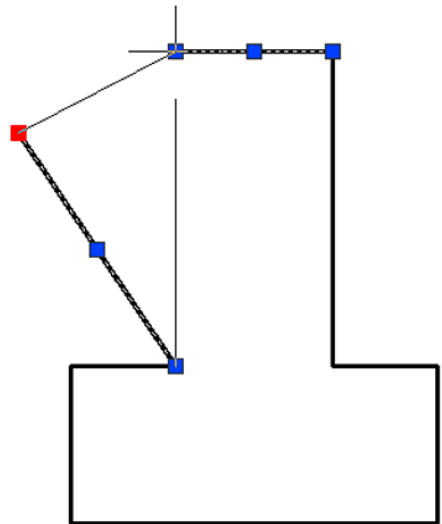

FIGURE 11-10: Using grips to connect two objects.
- » Use object snaps to existing objects to specify the new location. You can drag one grip until it's close to a grip on another object and snaps to it, even if object snap modes are turned off. Figure 11-10 shows a *hot* (red) endpoint grip of a line being connected to the endpoint grip of another line. The angled line shows the original position of the line being edited, and the thin vertical line shows the new position. Using a grip in this way as a visible object snap offers the same advantage as using Object Snap overrides (as described in Chapter 7): It ensures precision by making objects meet exactly.